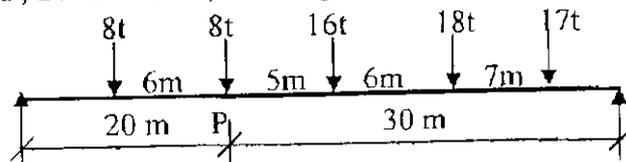

Fig. 12 (a)
12. (a) For the span shown in the Fig. 12 (a), obtain the bending moment at a section P, 20 m from A, due to given loads in the position indicated.